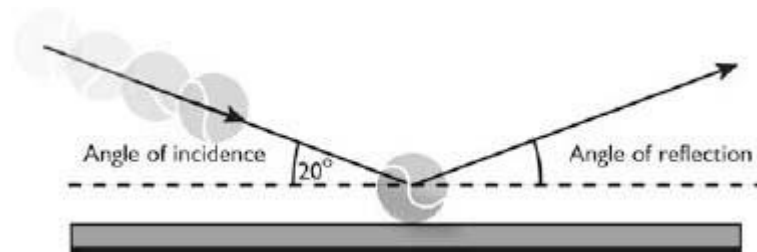

Figure 3.2 If the angle of incidence is 20 degrees, the angle of reflection is usually greater than 20 degrees.
The one thing we all remember from school is that when an object bounces off another stationary and immovable object, the angle of incidence equals the angle of reflection (see Figure 3.2). That statement is only true in two ideal situations: (1) when there is no energy loss and no friction, or (2) when the vertical and horizontal speeds of the ball decrease by the same fraction. For example, if the horizontal and vertical speeds both decrease by 20 percent, or if they both